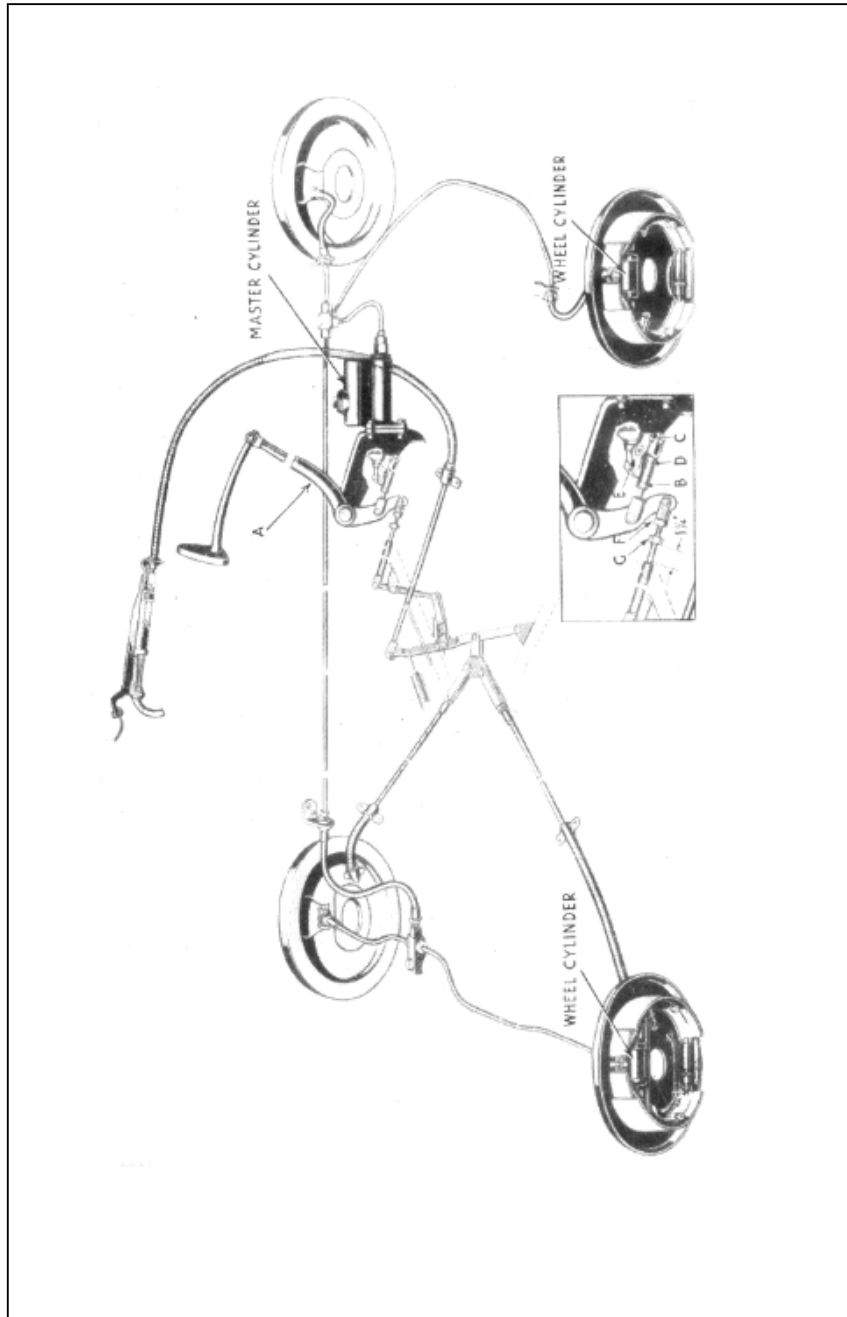

Figure 43
If at any time, the hydraulic system should fail due to an accident or some other cause, continued pressure on the foot pedal automatically applies the mechanical reserve system on the rear wheels. See Fig. 43.
ADJUSTMENTS—To insure proper operation of the mechanical reserve system it is important that 1¼ inches clearance be maintained between rear face of push rod (G), Fig. 43, and front face of the pedal push rod with the brakes released.